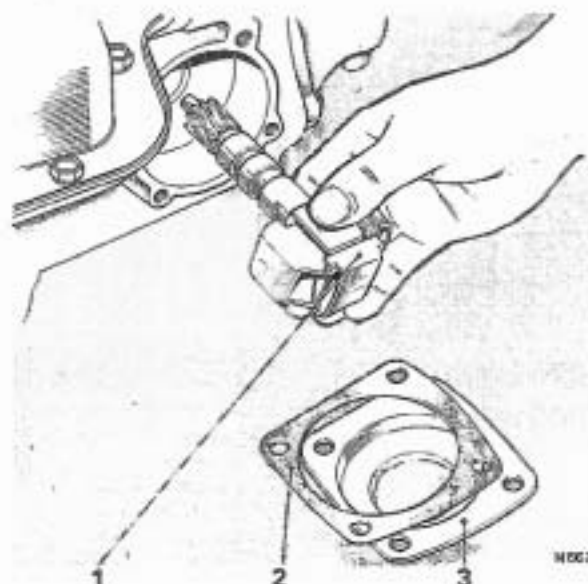

FIG. T178 REMOVING THE GOVERNOR ASSEMBLY
3. Withdraw the governor assembly from the case (see Fig. T178).